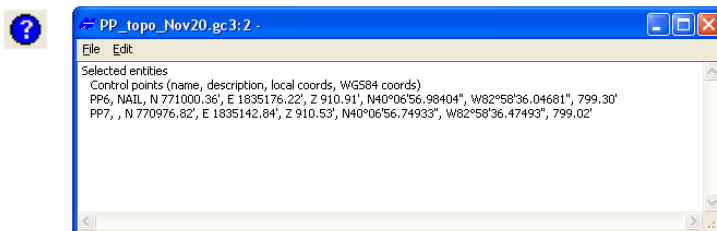

Figure 9-8. Information on Selected Entities
2. Click the activated **information** button on the toolbar. A text file opens, displaying information on the selected control points (Figure 9-8). Any modification to this text file has no effect on the values stored in the control file.